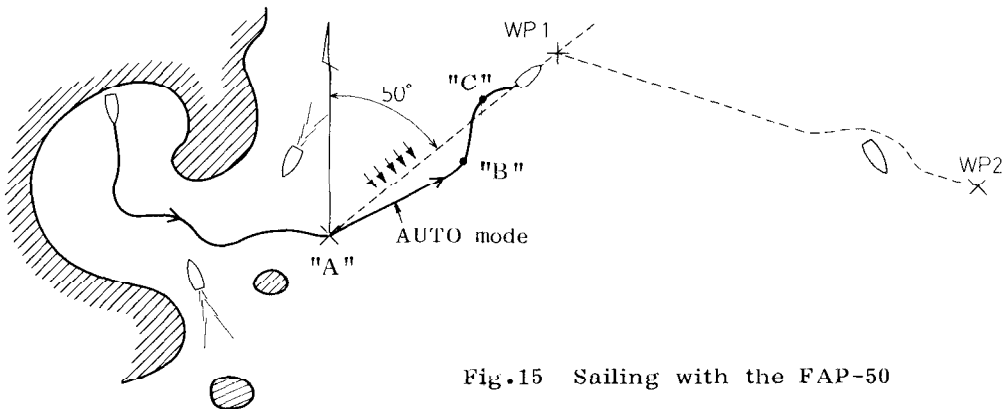

Fig.15 Sailing with the FAP-50
This example will demonstrate the use of the autopilot FAP-50. Refer to Fig.15. We begin with the boat moored in the port while warming the engine. The operator can take this time to turn on the navigational receiver, and to check and confirm the functions of the autopilot. The check should be carried out as explained in the section of "CHECK BEFORE SAILING," on page 17.
2. When you reach the open sea (point "A" in Fig.15), turn the boat to the direction of waypoint 1. Then, press the [AUTO] key. For example, in the illustration above, the set course is 50° and the display would be similar to the one below.